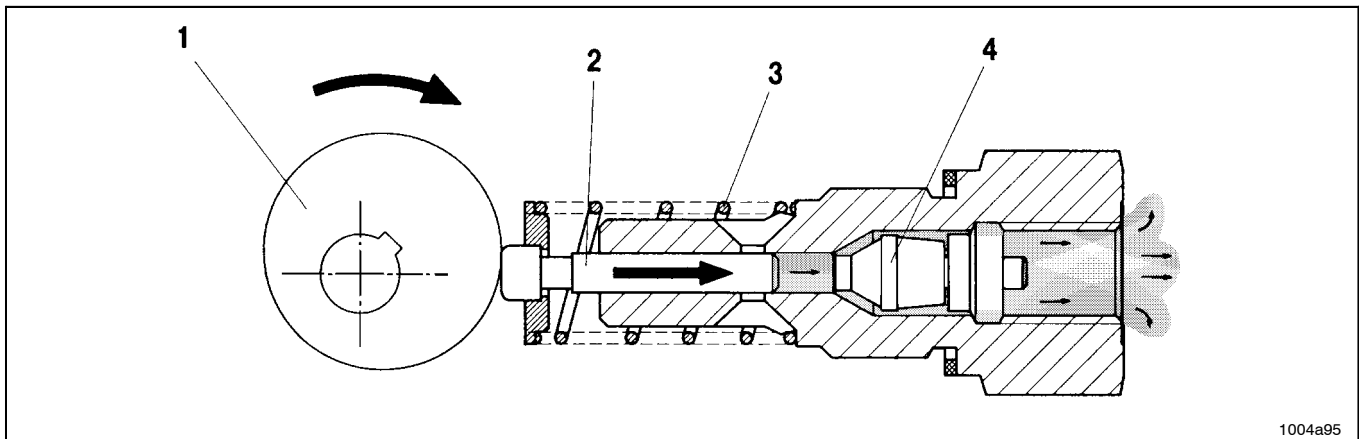

Fig. 8 The pump element dispenses lubricant
- piston 2 dispenses the lubricant to the connected lubrication points via the metering device (see fig. 8).